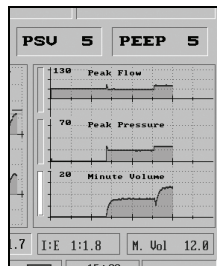

Figure 5.45 The Minute Volume graph is selected
1. While the Trends are displayed, select any Trend graph by dialing the control knob until a Select bar is highlighted (see figure 5.45). Press the control knob to bring up the Trends Choice bar. Then dial the control knob to highlight Browse.